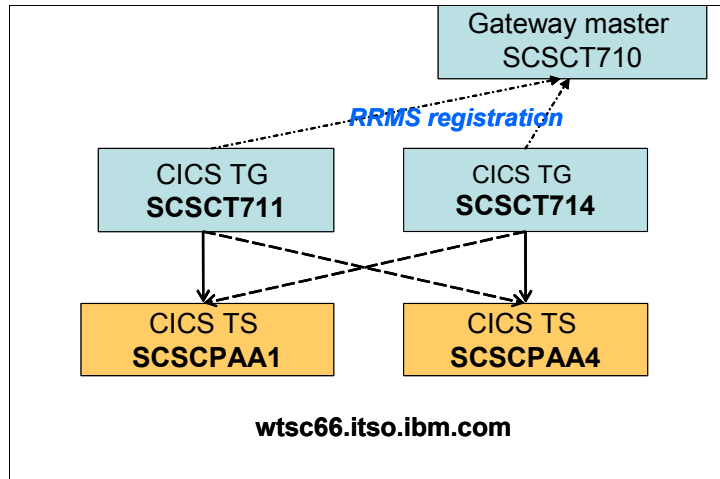

Figure 2-8 Basic configuration with RRMS ctgmaster
We intend to monitor CICS TG transactional (XA) support using workload balancing in our tests. Therefore, we needed to configure CICS TG for Resource Recovery Management Services (RRMS). This section explains how we did that. RRMS support is coordinated for a CICS TG group by a single CICS Transaction Gateway master process called *ctgmaster* located in <install_path>/bin/ctgmaster. Figure 2-8 on page 49 shows the master process in relation to our basic configuration.